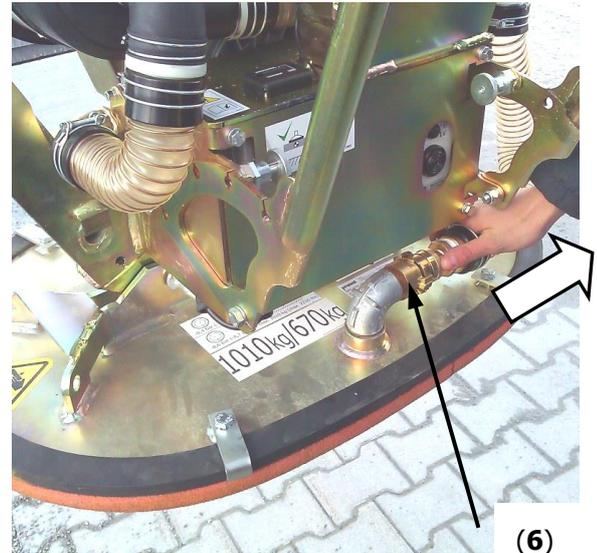

Fig. 7
- To increase the suction power when lifting of highly porous loads (stone slabs) the standard mounted quick-change coupling (6) can be removed from the suction plate to connect the vacuum hose directly to the suction plate.
- Therefor remove the quick-change coupling (6) from the suction hose (→ Fig. 7 + 8).